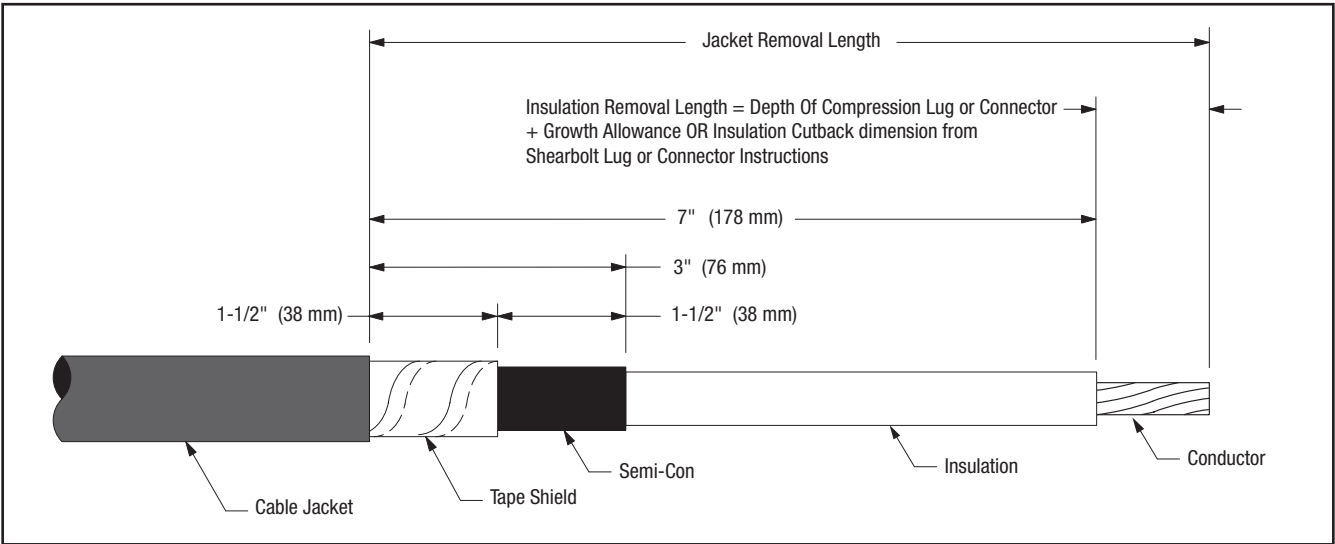

Figure 1
- Prepare cable using dimensions shown in Figure 1. **BE SURE TO ALLOW FOR DEPTH OF TERMINAL LUG OR CONNECTOR.** If necessary to prevent tape shield from unrolling, hold down edge with a single wrap of 3M EMI Copper Foil Shielding Tape 1181. If using 3M Shearbolt Lugs QL2 Series: Two Hole, or 3M Mechanical Shearbolt Connector QCI Series, proceed to Step 2.3. If using a Crimp Type (Compression) lug, measure the depth of the barrel, or if using a Crimp Type (Compression) connector, measure to the barrel center stop/midpoint, and see the NOTE below in order to calculate the Insulation Removal Length. Table 4 can be used to assist in calculating the total Jacket Removal Length when using a compression lug or connector
| Insulation Length                                                                                                               | 7.0"                        | 178 mm                  | Value from Figure 1                                                                                                      |
| Insulation Length                                                                                                                                                                          | 7.0"                        | 178 mm                  | Value from Figure 1                                                                                                                                                                                                                                                 |